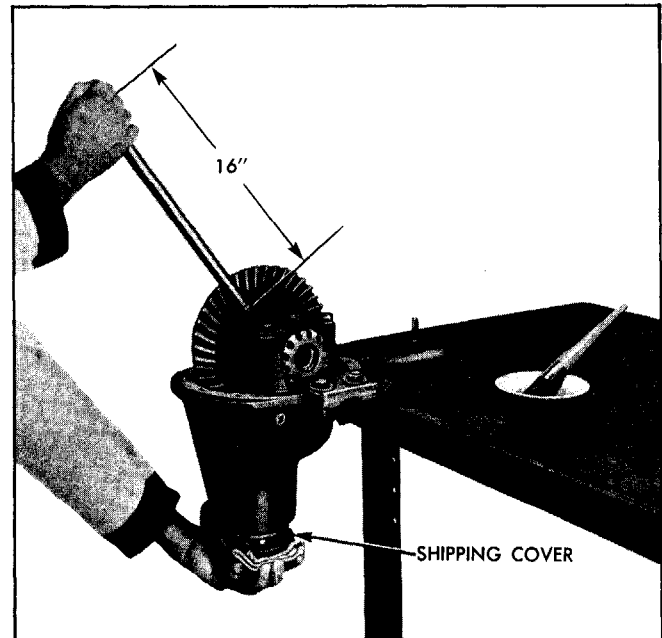

Fig. 4-27 Checking Tooth Contact Pattern—Red Lead Test
5. Insert a  $\frac{3}{4}$ " diameter bar into pinion shaft holes in differential case. Load gear set by using left hand (protected by a cloth) as a brake on flange shipping cover while right hand is rocking the ring gear back and forth several times with a grip on the bar about 16" from the case (Fig. 4-27). A pattern should be impressed on all ring gear teeth. A test made without loading the gears will not give a satisfactory pattern.